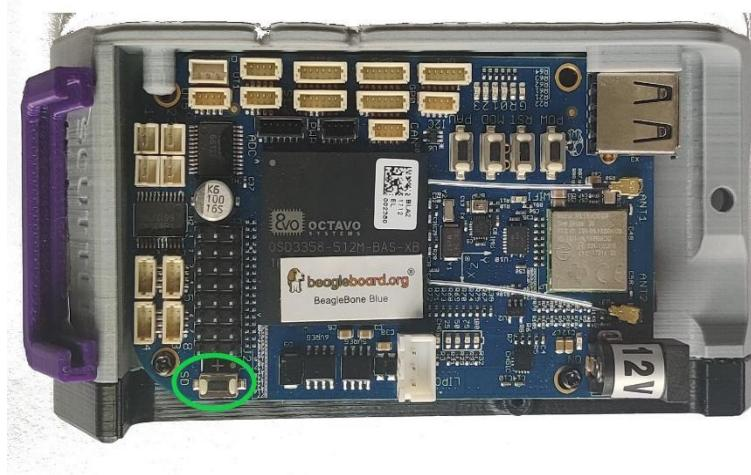

Figure 2
- i. Hold the SD button on your BeagleBone, connect your beagle micro-USB to your PC USB port to power on, and release the SD button as shown in Figure 2.